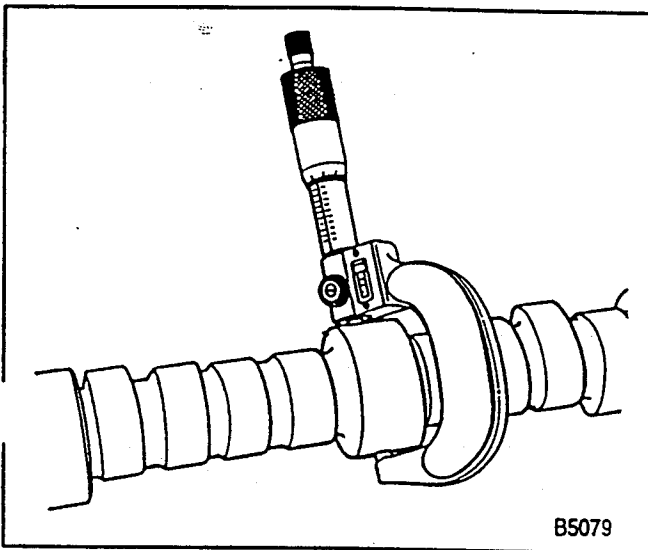

Figure 48—Checking the Camshaft Journals
- Camshaft journal diameter. Use a micrometer (figure 48). The proper diameter is listed in "Engine Specifications."